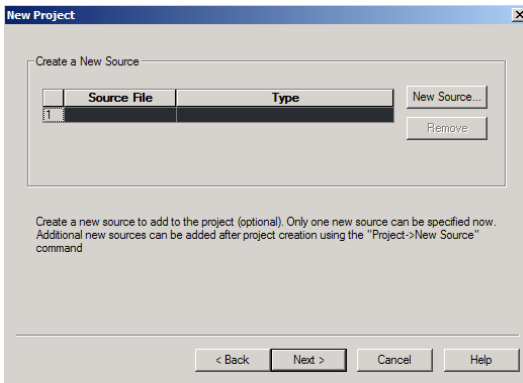
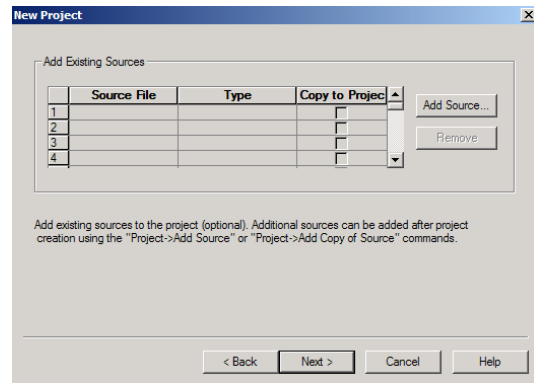

Figure 5. Creating new sources
Figure 6. Adding existing sources.
5. Add VHDL code to the project; Click **Next** on the following window (figure 5). A new window as shown in figure 6 will open. Click on the **Add Source** button and browse to the files sequence.vhd (VHDL Design file) and sequence\_tb.vhd (VHDL Test Bench File). If for either reason you missed the windows we just described, you can still add the source files as you did in previous labs: Go to **Project** → **Add source**, select the sequence.vhd (vhdl module) and sequence\_tb.vhd (test bench associated to sequence.vhd).